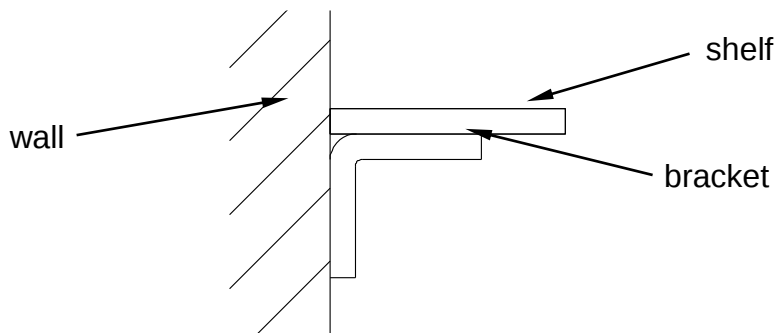

Fig. 2
- 5 Figure 2 shows a front view of a bracket used to support a shelf in a Design and Technology storeroom for tools.